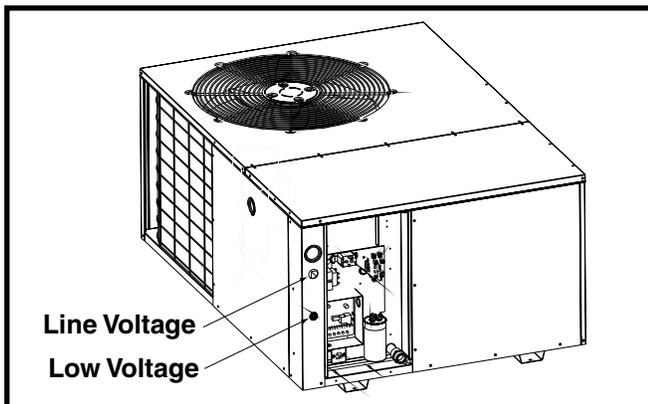

Figure 7. Power Entry
inside the control compartment. Extend leads through power wiring hole (Figure 7, page 7). Connect L1 & L2 directly to the contactor.
- The low voltage wires must be properly connected. Route 24V control wires through the sealing grommet (Figure 7, page 7) near the power entrance. Recommended wire gauge and wire lengths for typical thermostat connections are listed in Table 2 (page 9).